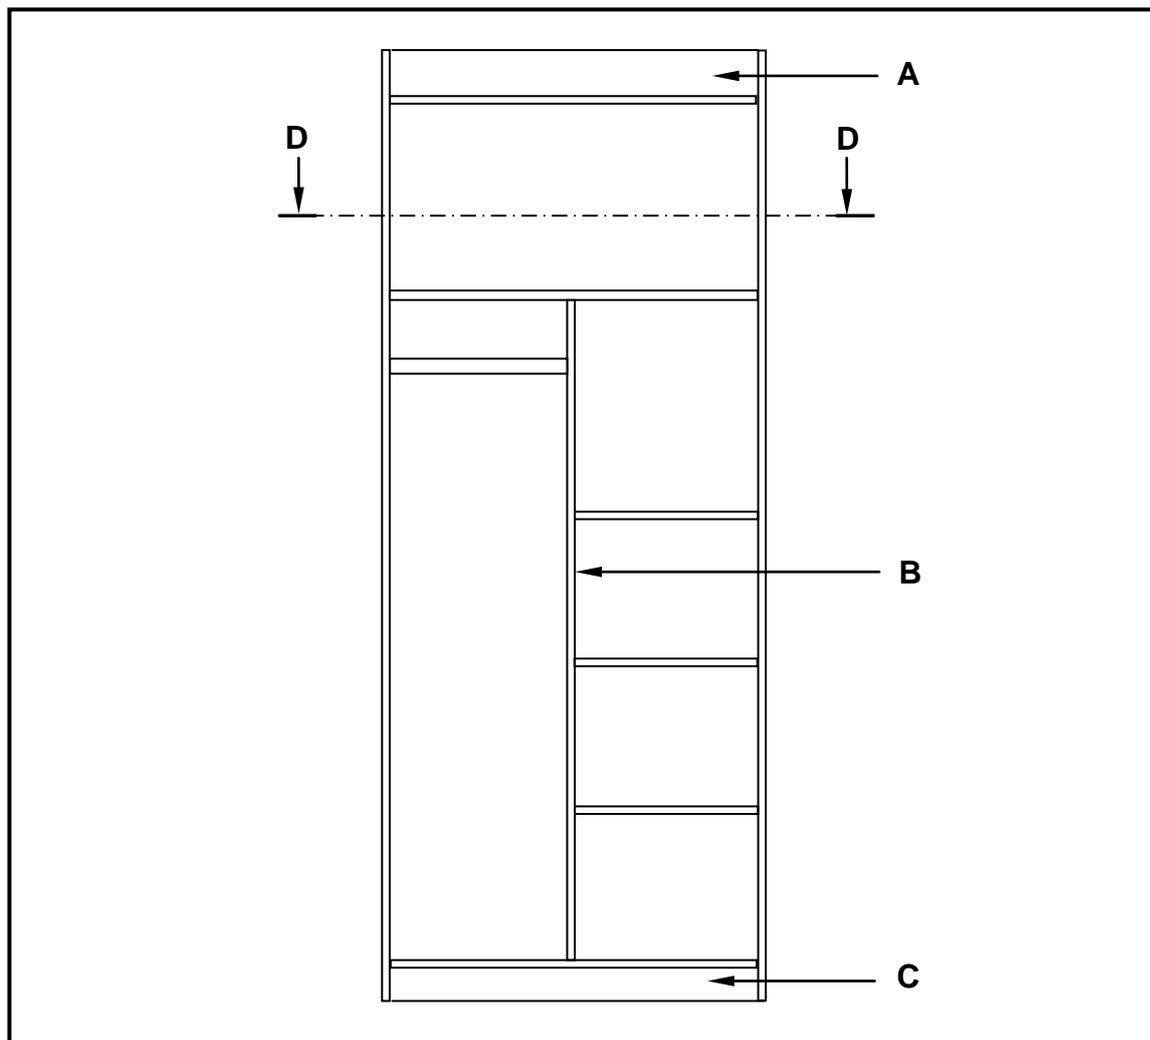

FIGURE 3.3
- 3.3 FIGURE 3.3 below shows the front elevation of a built-in cupboard without doors.